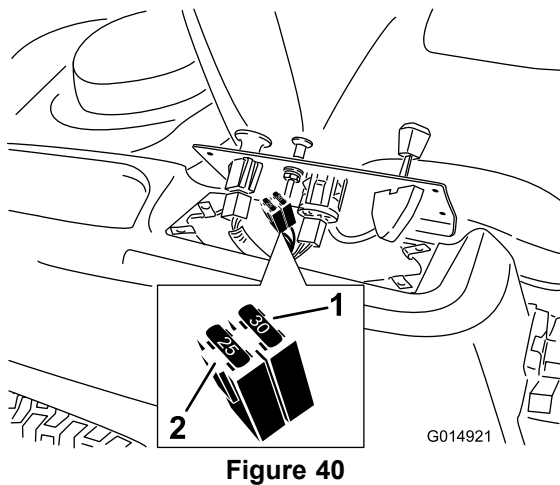

Figure 40
2. Lift the control pane up to access the main wiring harness and fuse block (Figure 40).
3. To replace a fuse, pull out the fuse to remove it (Figure 40).